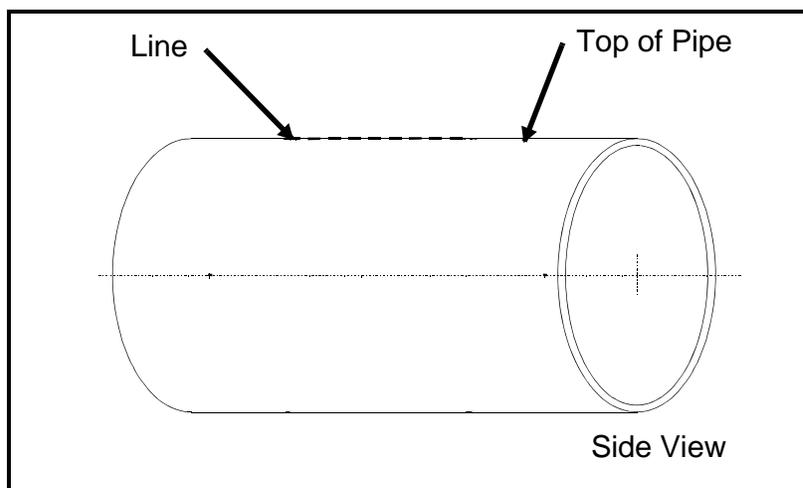

Figure 9: Line Parallel to Pipe Axis
4. Find the top of the pipe and use a level to draw a line parallel to the pipe's axis, as shown in Figure 9 below.